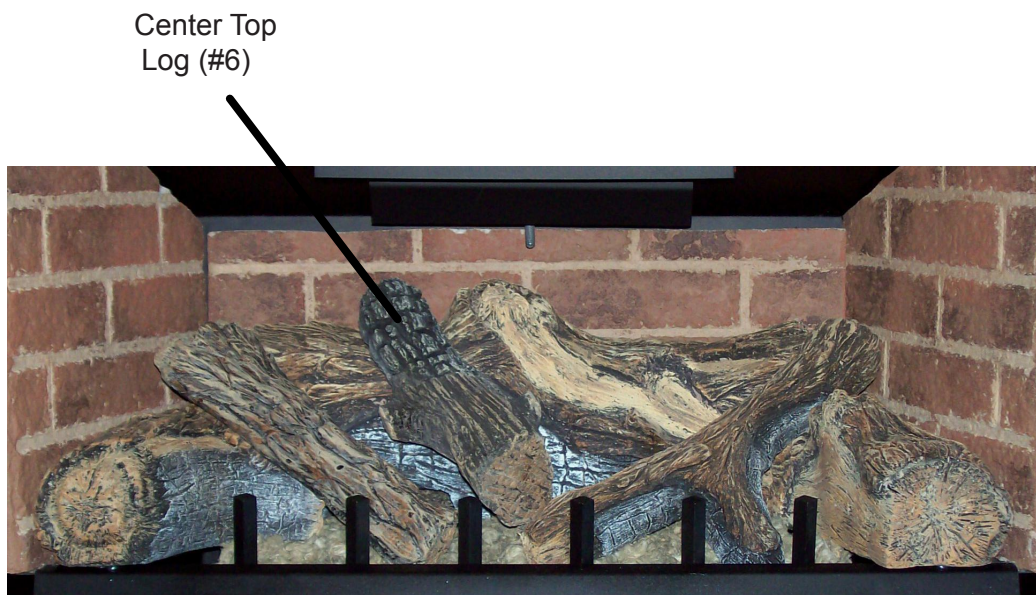

Figure 22 - Installing Center Top Log #6
9. Place one end of center top log (#6) on rear log (#1). Line up hole in bottom of center top log (#6) with pin on rear log (#1). *See Figure 22.*